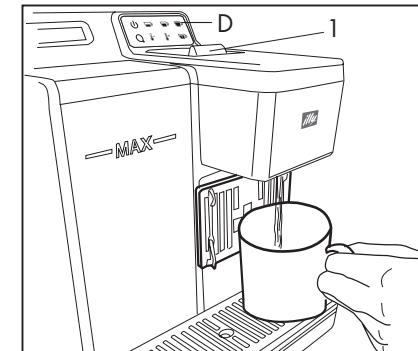

Fig. 13
- Press button (D). (**Fig.13**)
the capsule door (1) must not be opened before starting the washing cycle. (**Fig.13**)